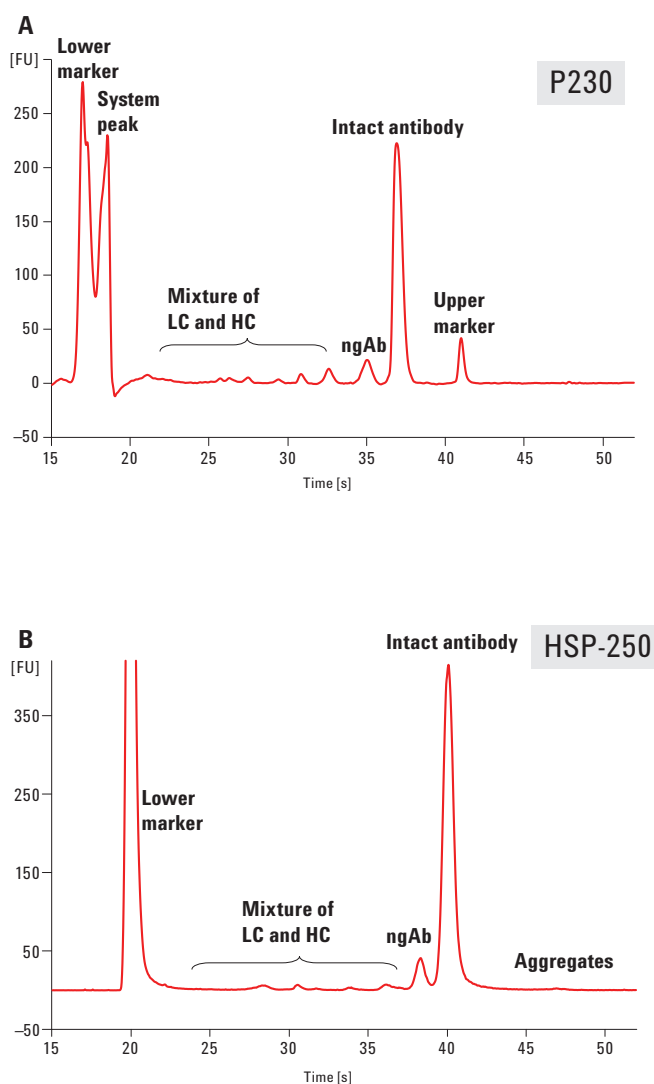

Figure 2
Under non-reducing conditions (Figure 2) the intact antibody (Ab) is detected at 156.6 kDa with the HSP-250 assay, which is in close agreement with its theoretical molecular mass of about 150 kDa. The P230 and HSP-250 assays clearly resolve light chain (LC), heavy chain (HC) and a mixture of LC and HC peaks including the non-glycosylated form of IgG2 (P230: 144.5 kDa peak and HSP-250: 143.3 kDa peak). A unique feature of the HSP-250 assay is the size and concentration measurement beyond the size range of the ladder, that is, 250 kDa. High molecular weight aggregates or impurities are thus analyzed for size and quantity as well.